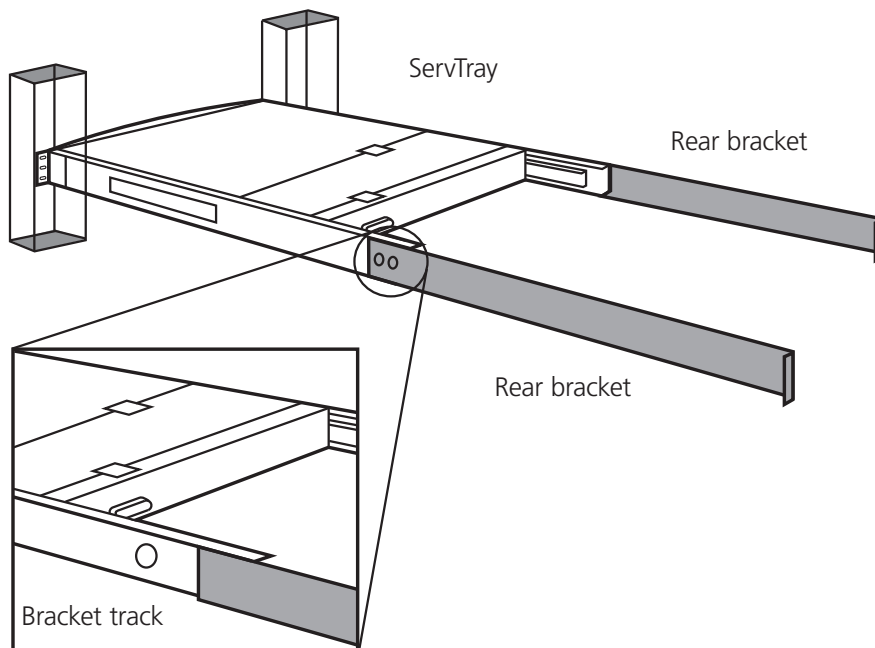

Figure 3-7. Install the rear bracket onto the ServTray KVM Tray's extensions.
4. Slide the rear bracket into both sides of the unit. Make sure that the two wheels with screws are inside the bracket's track while sliding in the rear bracket. See Figure 3-7.